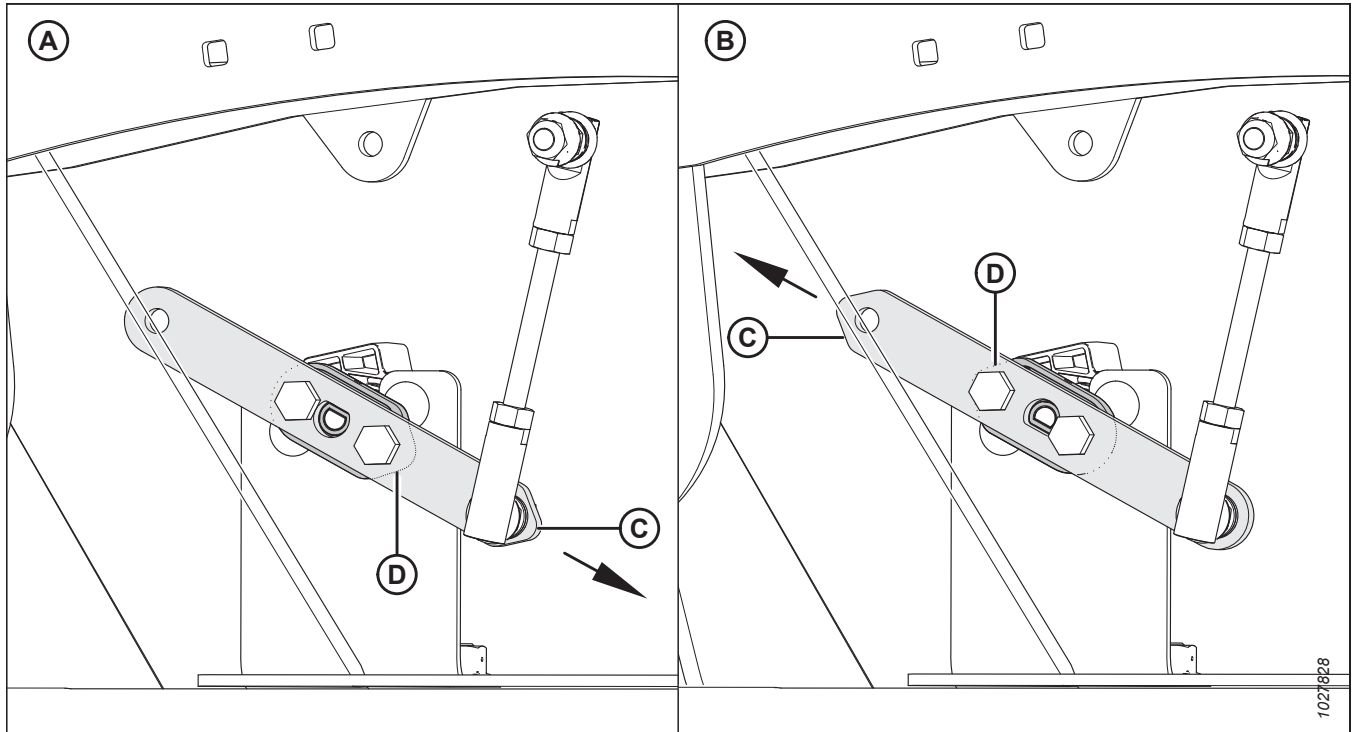

Figure 3.116: Sensor Arm/Pointer Configurations
2. Check that sensor arm (C) and pointer (D) are configured properly for your machine; refer to Figure 3.116, page 117.